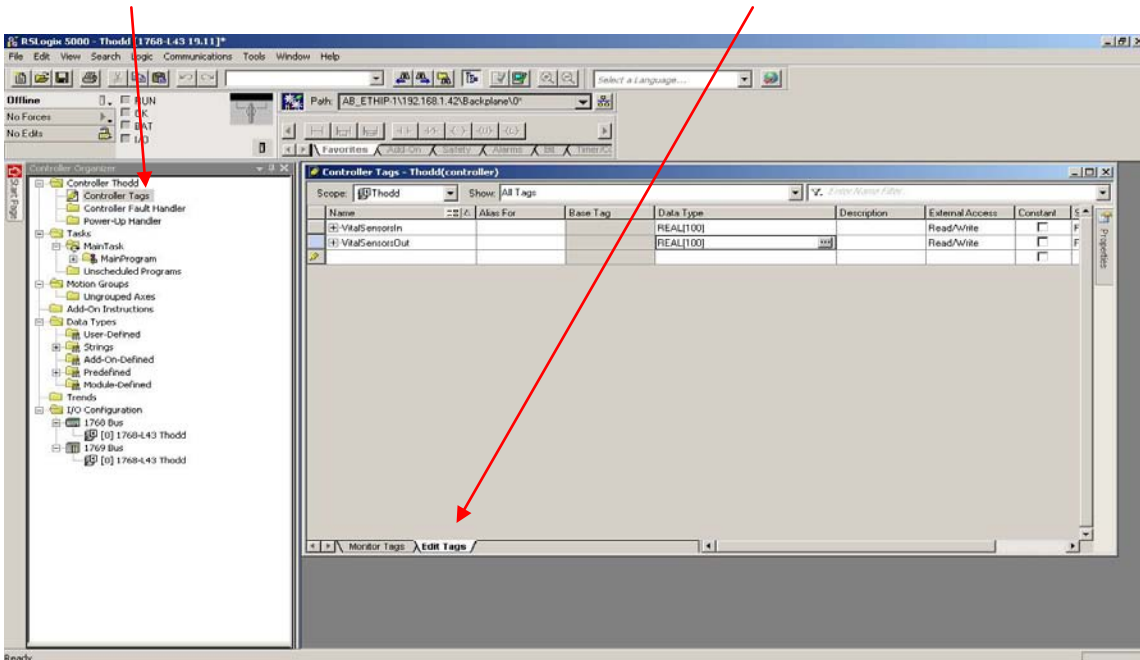

Figure: 8
6. In Controller Organizer double click on Controller Tags and click on *Edit Tags* tab. See Figure 8 below.
Figure 8 and 9 shown above depict the inputs and outputs of a VS-3000 BSMA Beverage, Soft Drink and Juice Monitor. The specific gravity and original gravity positions are for use with the VS-3000 Beer Monitor. The input settings represent all the important settings for the sensor. They include: